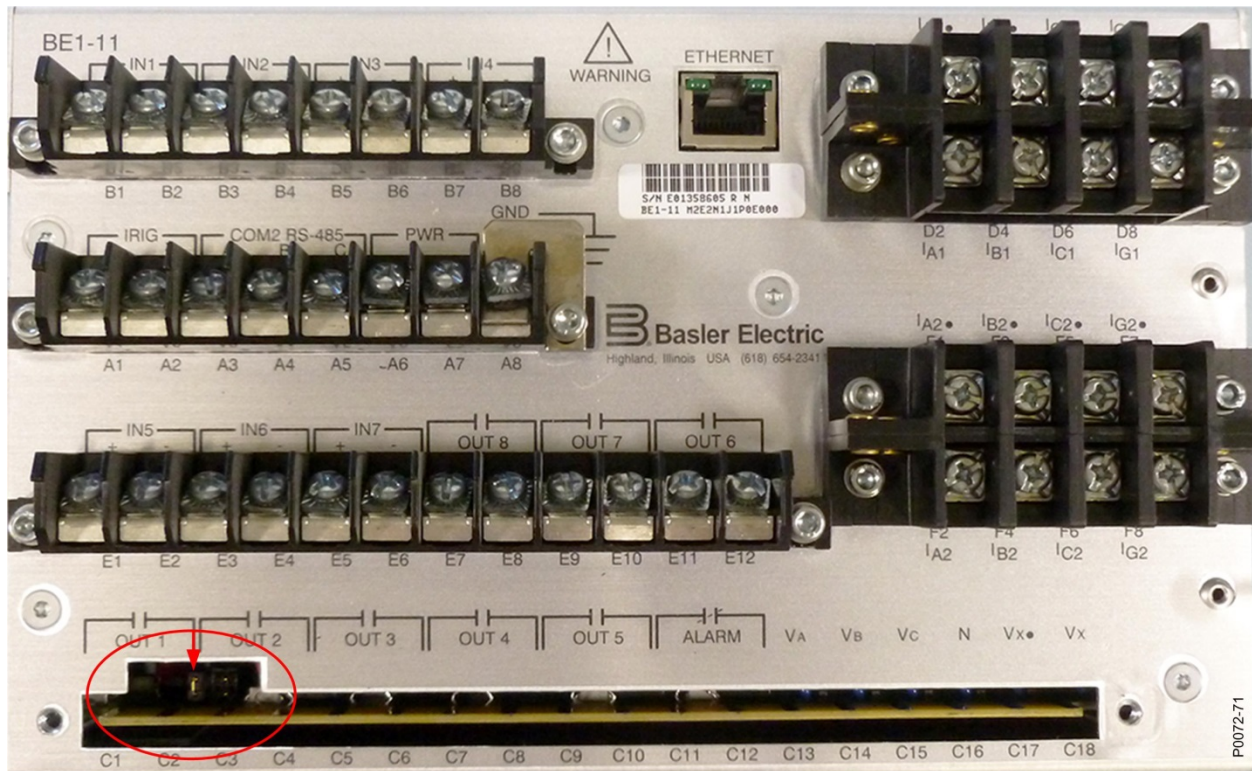

Figure 41-4. Trip Circuit Monitor Enable/Disable Jumper Location
2. Locate the jumper terminal block that is mounted on the left side of the circuit board. The terminal block has four pins. With the jumper as installed at the factory, the jumper should be connected across pins 1 and 2 (left side) when viewed from the back of the unit. This jumper configuration enables the trip circuit monitor. Figure 41-4 illustrates the location of the jumper terminal block as well as the position of the jumper connected.